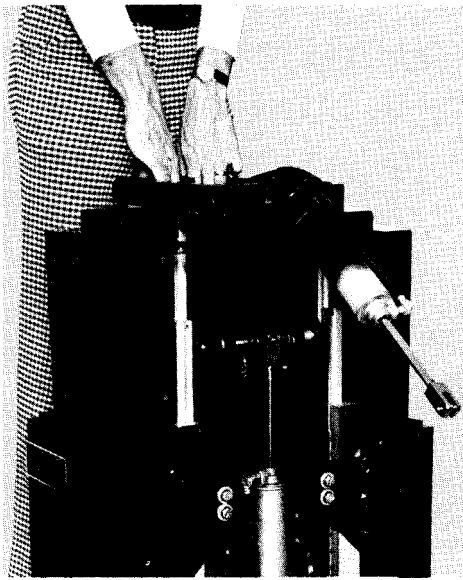

Fig. 25
- 11) Have an assistant lift on the base sliding member as shown in Fig. 25 so the weight is relieved on the clevis pin and the clevis pin may be removed, then lower the sliding member slowly.
19) Have an assistant lift on the sliding member as shown in Fig. 25 enabling the clevis pin (rod end) to be inserted and clip installed.